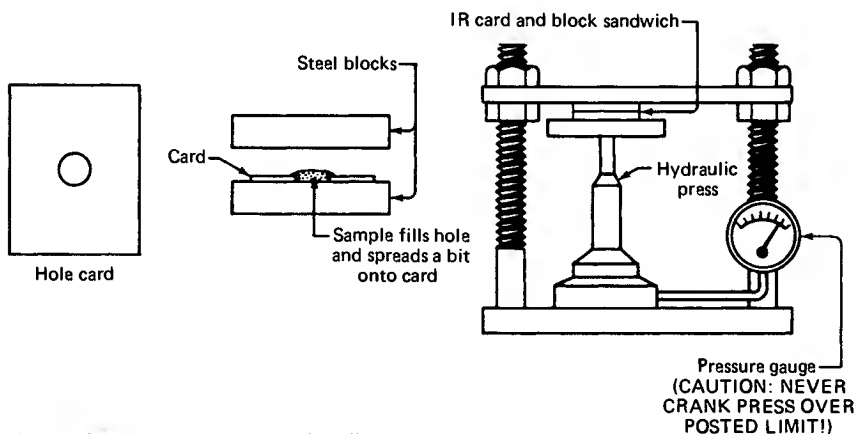

Fig. 125 KBr disks by hydraulic press.
6. Cover the card, which now has your sample on it, with the second metal block (Fig. 125).